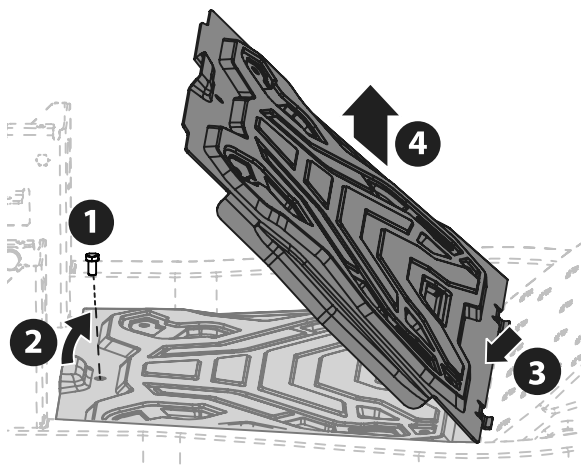

Figure 34
1. Using the multi-tool (if equipped) or a 1/2 inch socket, remove the hex screw that secures the floor panel in place (1 in Figure 34).
2. Carefully lift the rear of the floor panel (2 in Figure 34).
3. Slide the floor panel rearward to free the front of the floor panel (3 in Figure 34).
4. Lift it off the tractor (4 in Figure 34).